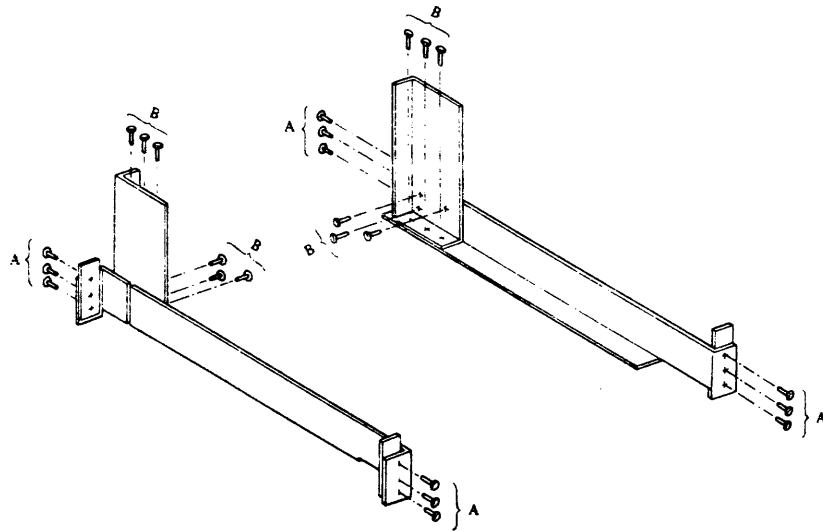

Figure 2.2.10 Rail mounting (1)
- (a) Remove all the A screws. (Refer to Figure 2.2.10)
As D=25": refer to Figure 2.2.10